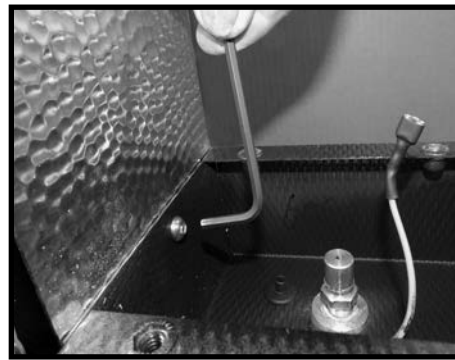

Figure 23: Releasing gas valve assy from main body.
7. Remove two 5/32 inch Allen screws which attach the gas valve assembly to the HeliFire 360 body (Figure 23).